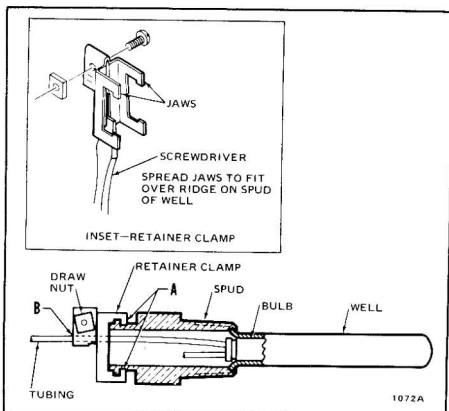
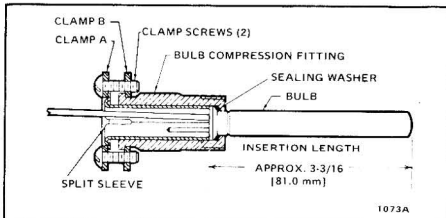
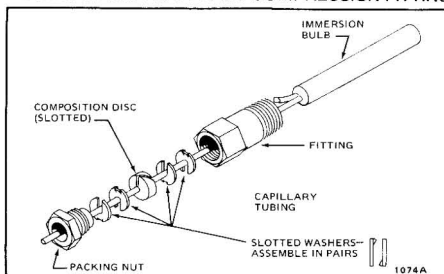

Fig. 2—Mounting the L4008E in an immersion well using the retainer clamp.
Fig. 3—Bulb Compression Fitting in in. [mm in brackets].
Fig. 4—Capillary Compression Fitting.
Depending on installation requirements, the temperature sensing bulb either is installed in an immersion well (Fig. 2) that extends into the boiler tank or is directly immersed in the liquid. For installations not using a well, the bulb must be secured with a bulb compression fitting (Fig. 3) or a capillary compression fitting (Fig. 4). Well or fitting must be ordered separately. Refer to form 68-0040, "Wells and Fittings for Temperature Controllers," for part numbers and ordering information.
4. With retainer clamp attached to well spud, adjust tubing to fit through retainer clamp groove, as shown at point B. (Be sure the clamp jaws hook over ridge at end of well spud, as shown in Fig. 2.)
4. Place composition disc and 4 slotted brass washers on tubing as shown in Fig. 4. Turn brass washers so that the slots are 180 degrees from each other.